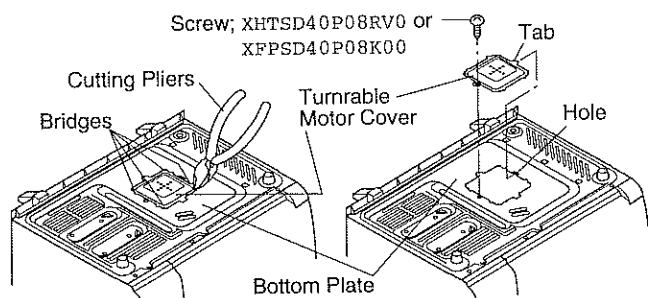
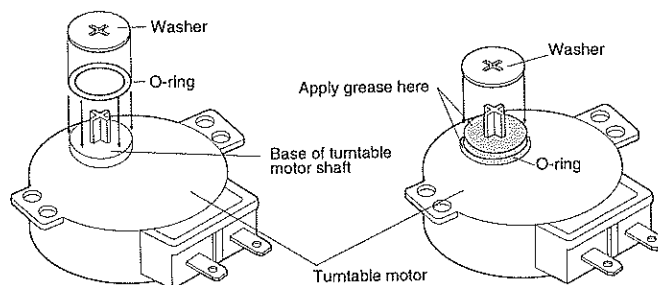

Figure C-4. Turntable Motor Cover
Figure C-5. Washer and O-ring Installation and Grease Applying.
4. Cut the four (4) bridges holding the turntable motor cover to the bottom plate with the cutting pliers as shown in Figure C-4.
3. Apply the grease (Shinetsu silicone grease G-420 of Shinetsu Chemical Co. Ltd. or Toray Silicone grease SH-14 of Toray Silicone Co., Ltd.) to the O-ring and the base of the turntable motor shaft as shown in Figure C-5.
4. Re-install the turntable motor with the O-ring and washer to the oven cavity with the single (1) screw.
6. Insert the tab of the turntable motor cover into the hole of the bottom plate as shown in Figure C-4.
7. Re-install the turntable motor cover to the bottom plate with one (1) screw XHTSD40P08RV0 or XFPSD40P08K00 as shown in Figure C-4.